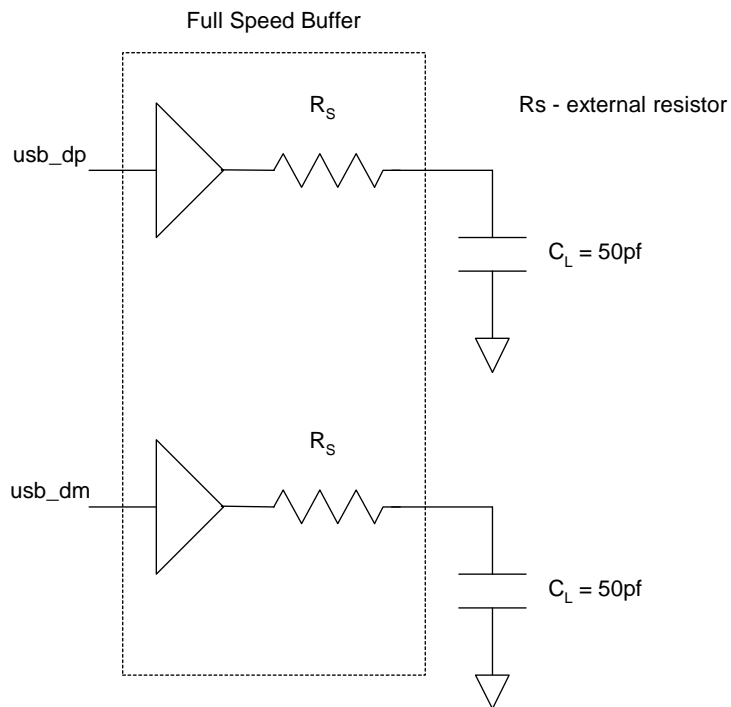

Figure 139: USB full speed load
- 1 Load shown in Figure 139, "USB full speed load," on page 818.